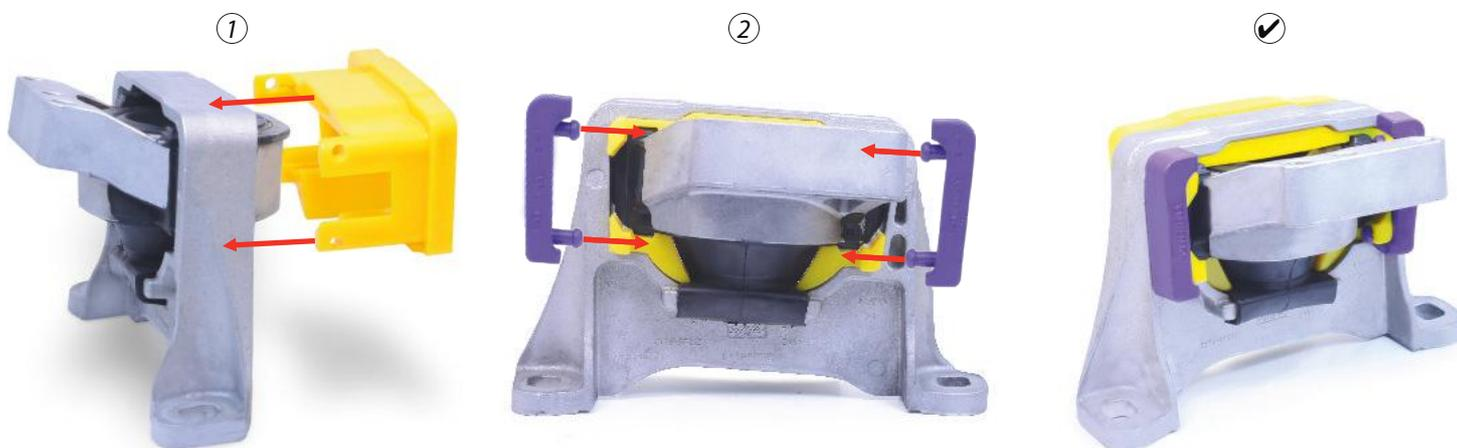

Figure 1: Fitted Assembly Steps
2. Fit polyurethane A insert into the engine mount bush, from the right hand side of the vehicle. As shown in Figure 1.
3. Insert each polyurethane B insert into holes at the top of polyurethane A insert, making sure the arrows with 'UP' inscribed on to it are facing upwards on vehicle. As shown in Figure 1.